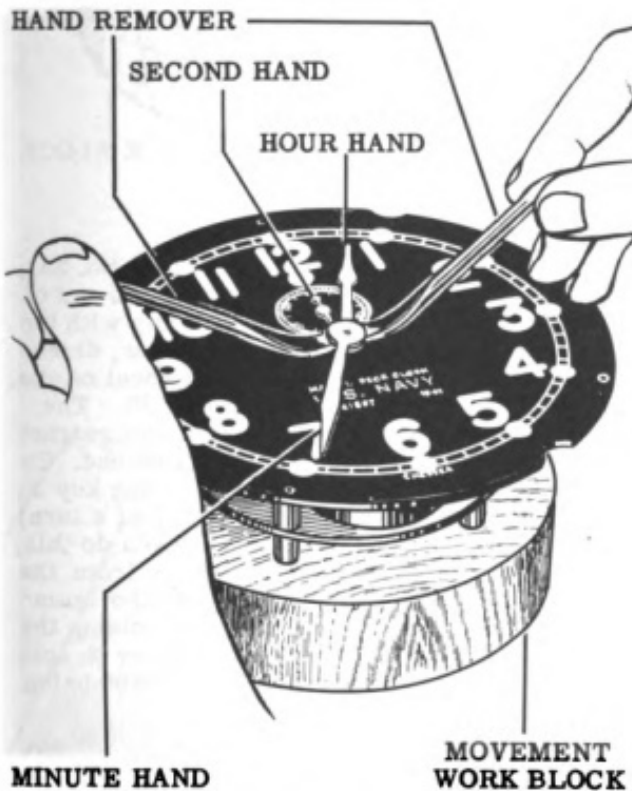

Figure 27
6. Place the dialed movement on the work block (Tool No. 1A), dial side up so that it rests on the four extension pillars in the position shown in Fig. 27.
8. Using a pair of the special hand removers with felt pads (Tool No. 2A), as shown in Fig. 27, pry off the minute, the hour and the second hands one by one. The purpose of the felt pads on the heels of the hand re-